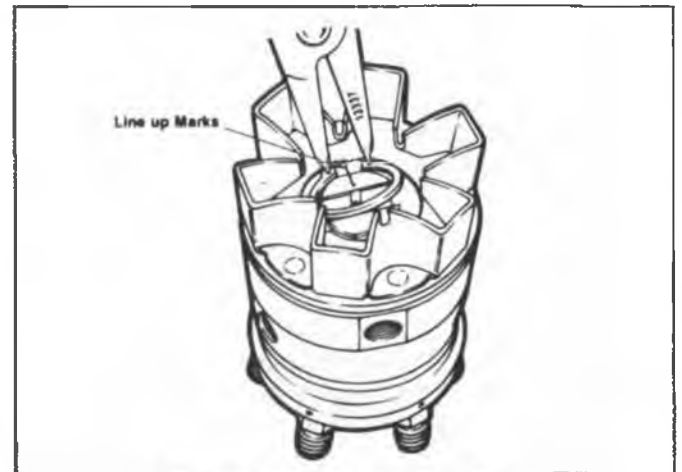

Fig. 2-31 Governor Cage Snap Ring
22. Remove governor cage retaining snap ring (Fig. 2-31).
2. Align timing marks on retainer assembly and rotor and install governor weight retainer assembly (Fig. 2-31).